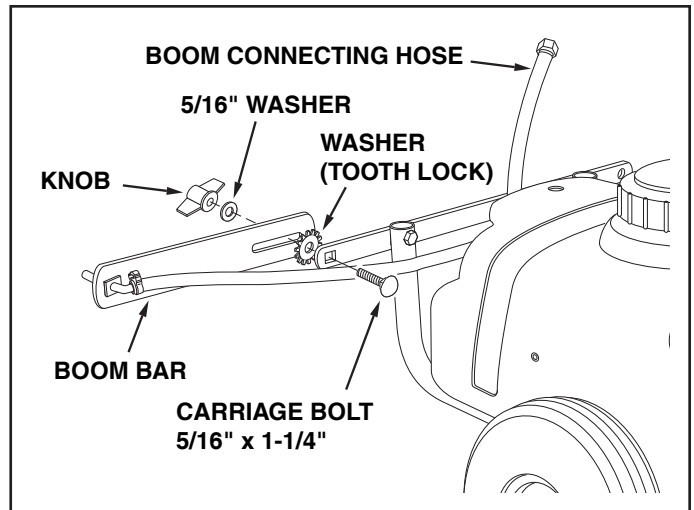

FIGURE 6
- Assemble the boom bars to the boom mount bracket using two 5/16" x 1-1/4" carriage bolts, tooth lock washers (between the bar and bracket), 5/16" flat washers and knobs. The boom connecting hose should extend upward. See figure 6.